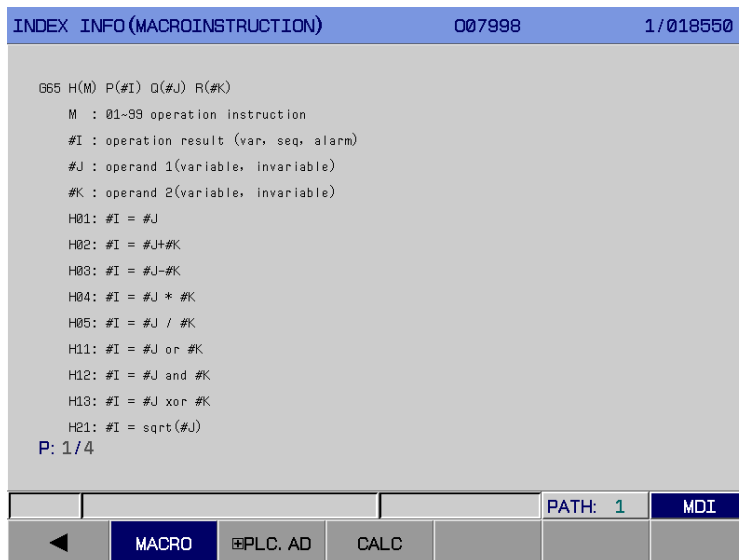

Fig. 3-9-7
6. Macro command interface Enter the help information (Macro command list) page by **【MACRO COMMAND LIST】** softkey in <HELP> interface; refer to the Fig. 3-9-7: